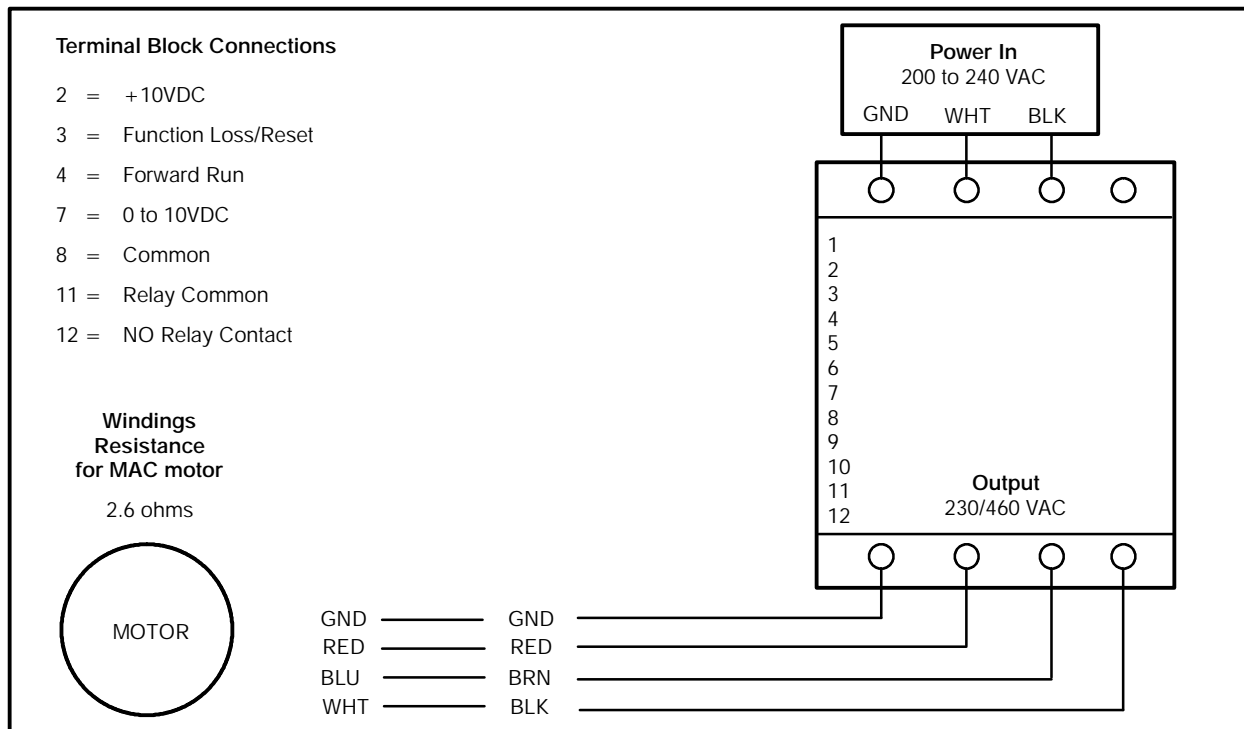

FIGURE 3
2. Inspect the SP200 AC drive motor control. See FIGURE 3. The SP200 AC drive motor has a single LED.
The operating parameters of the SP200 AC drive control are preprogrammed into the control. Refer to FIGURE 3 to verify voltages and wiring.